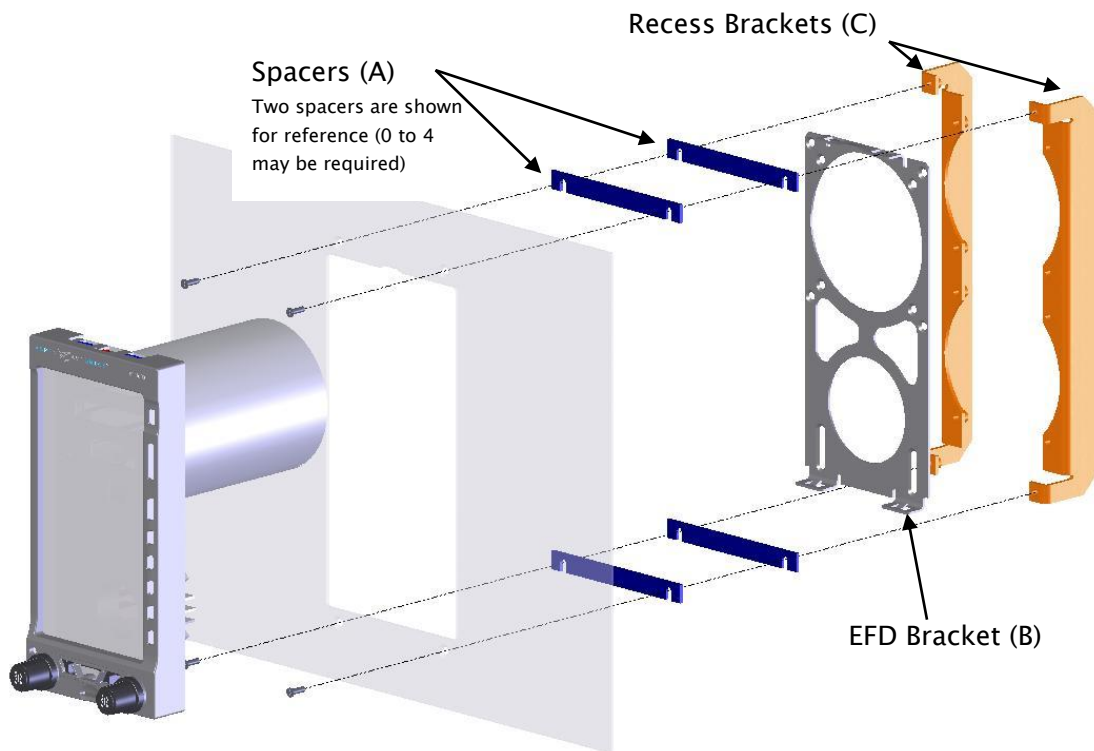

Figure 6-4: Single Display Recess Mount Bracket Installation
6.8.3 Recess Mounting the EFD as per Figure 6-4
STEP 6 – Install the Recess Mount Brackets and Hardware (Use Figure 6-4 for reference)
- 1) Fit the spacers (A) between instrument panel and recess brackets (C) as shown in Figure 6-4, using four MS24693-S29 6-32 X 3/8 machine screws or pan head screws may be used if that look is desired. Tighten all four mounting screws and nuts to 12 in-lbs anchoring the brackets to the panel.